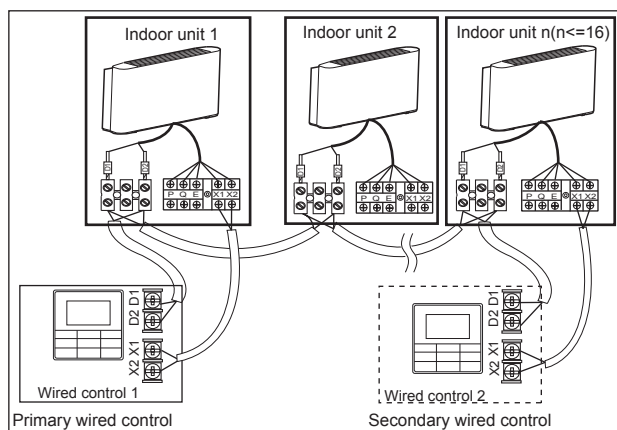

Figure 6.8
- Use 1 wired control to control multiple indoor units or 2 wired controls (one primary and one secondary control) to control multiple indoor units (see Figure 6.8);